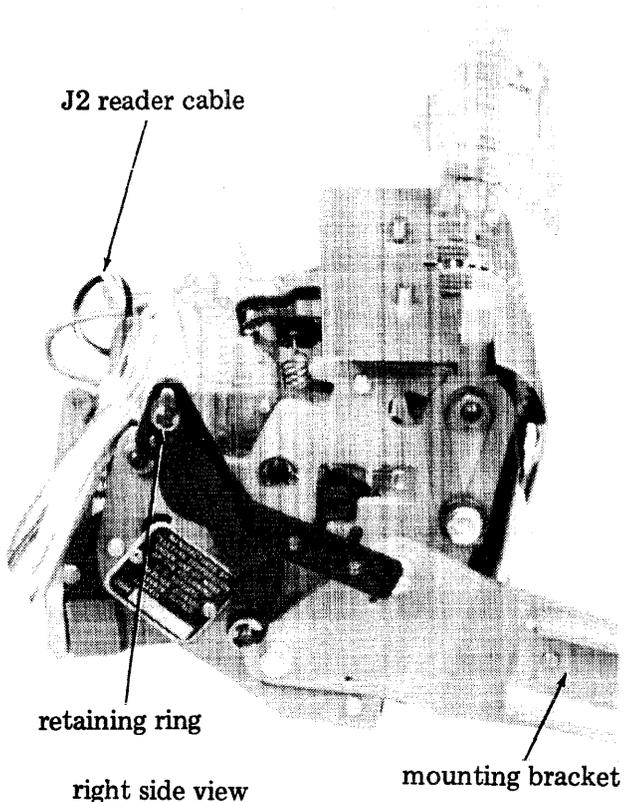

Figure 6 - Model 38 Reader
2.11 Remove reader (Figure 6) as follows: